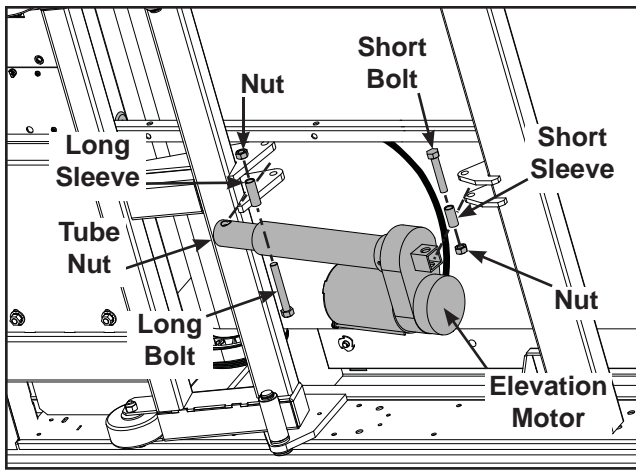

Figure 3
- C. Using a 9/16" open end wrench and a 9/16" Socket wrench, remove the two bolts, nuts and sleeves on the elevation motor (one at the top and one at the bottom). See Figure 3. **NOTE:** Hold the motor while you remove the second bolt so that it doesn't fall.
- A. Carefully place the elevation motor in position on the treadmill. See Figure 3.
- B. Slide both bolts and sleeves into the slots and attach the nuts as shown in Figure 3.
- D. Route the elevation motor cable along the frame and through the grommet. See Figure 3.
- E. Tie the elevation cable with wire ties (B) to the frame. See Figure 3.
- F. Using the side cutters, remove excess material from wire ties (B).